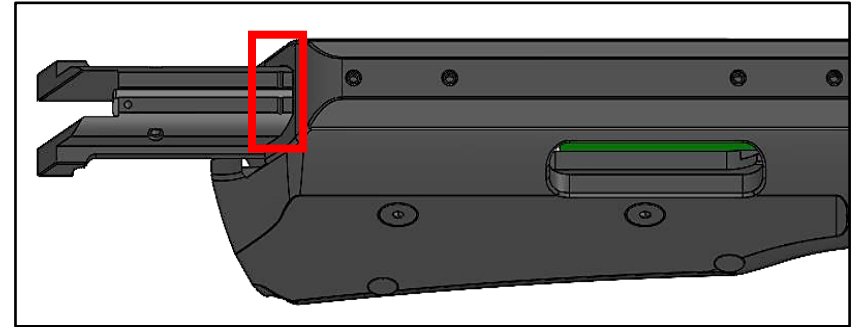

FIGURE 28
2. With the bolt face oriented in the same direction as the cover, slide the bolt back into the front of the cover. Slide the bolt rearward into the cover up to the notch on the bolt. FIGURE 28.